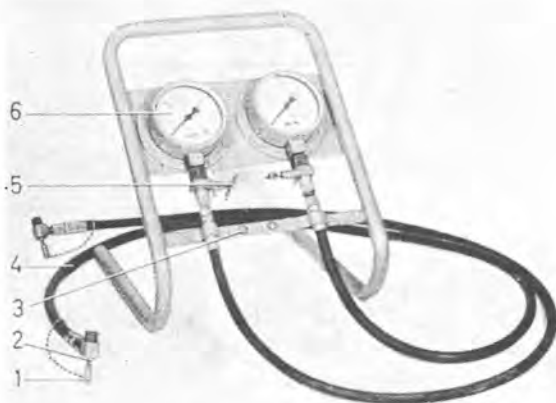

Fig. 5-2. Testing device SVO 2741
The testing device (Fig. 5-2) is used, for example, to trace faults in the brake system.
2. Remove inner and upper, also outer venting nipples at one of the front brake calipers and connect up the testing device SVO 2741 shown in Fig. 5-2.